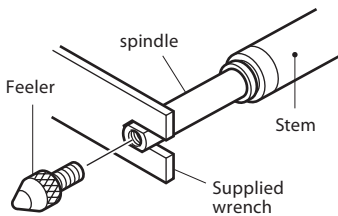

Fig. 2 Attaching/removing feeler
- When attaching and removing the feeler, use the supplied wrench. Be careful not to apply torque exceeding 0.1 N·m to the spindle. This could lead to a breakdown. Except when using a flat feeler, it is recommended to either attach the supplied spring washer (nominal size: 2.5) or use a screw lock to prevent loosening of the feeler (tightening torque reference value: 0.05–0.06 N·m) (See Fig. 2.).